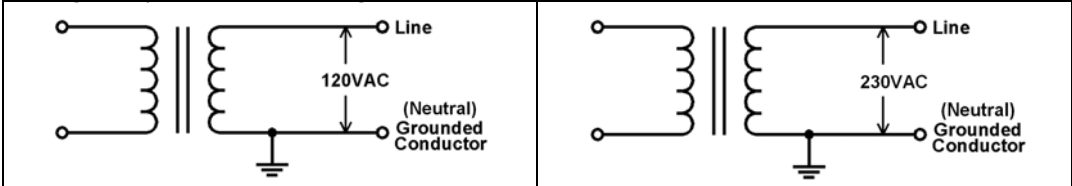

Fig 2 – Single Phase systems
- 120/230 V single phase (Figure 2)